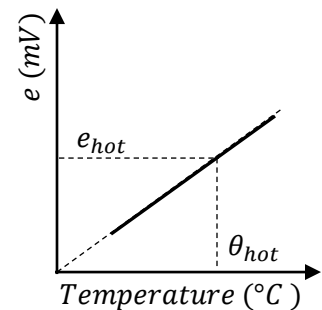

Figure 2: Calibration curve
- **Theory:** When one junction of a thermo-couple is kept at 0°C while its other junction is maintained at a higher temperature, thermo-e.m.f e will be developed in the couple. Magnitude of the thermo-e.m.f depends upon the temperature difference between the two junctions (here on the temperature of the hot junction only as the cold junction temperature is 0°C). Variation of the thermo-e.m.f can be studied by plotting the measured thermo-e.m.f using the voltmeter with temperature of the hot junction (i.e., with the temperature difference of its two junctions) measured using the thermometer. The thermo-e.m.f e versus temperature curve should be approximately linear over around up to 90°C (see Fig. 2). This plot can be used as a calibration curve, and later the hot junction of the thermo-couple can be used as a thermometer. If the hot junction is inserted into a body, a thermo-e.m.f (e_{hot}) will be generated in the thermo-couple, and the temperature (θ_{hot}) corresponding to that thermo-e.m.f can be found from the calibration curve. This thermo-couple